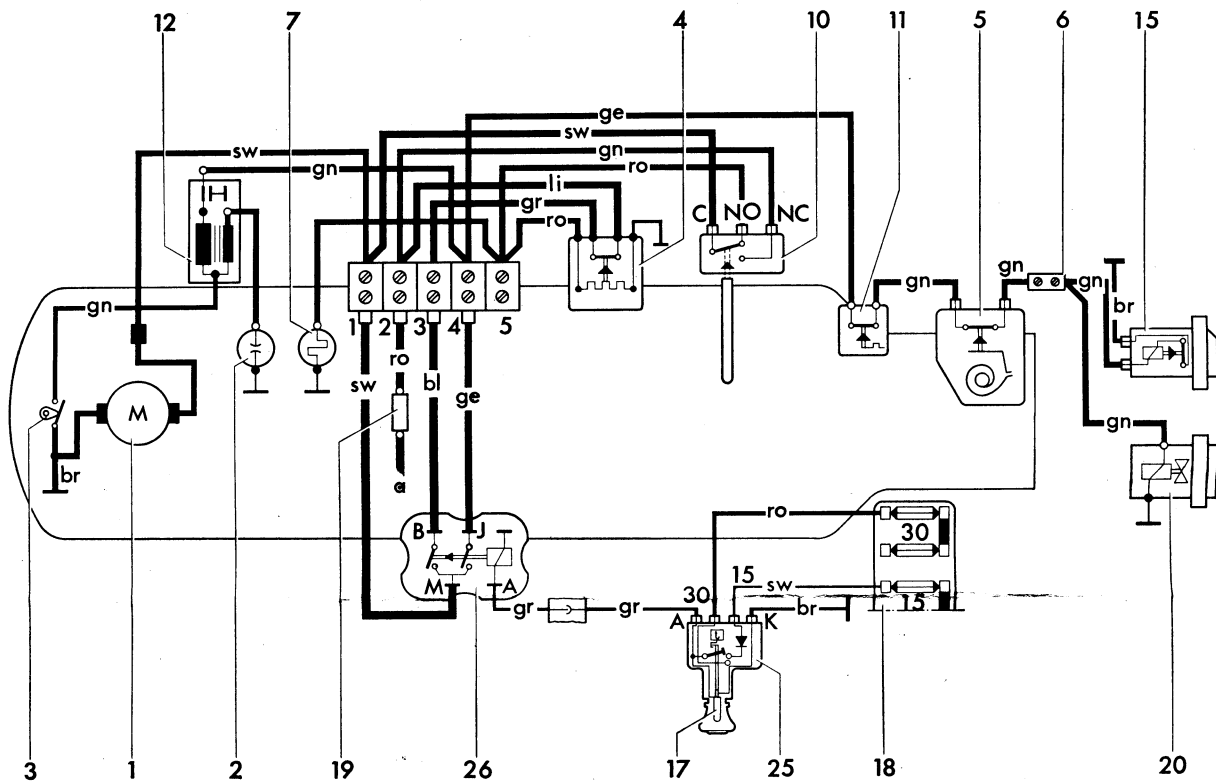

Figure 20
- 20 – Connect the heater fuel line. Connect cables according to wiring diagram (Figure 20).